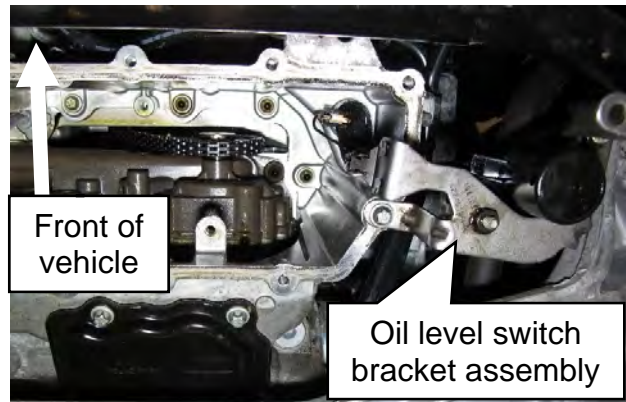

Figure 17
27. Flip the engine oil level switch bracket assembly over and use one (1) of the bracket retaining bolts to secure it to the upper oil pan.
- Secure the oil level switch bracket assembly as shown in Figure 17.